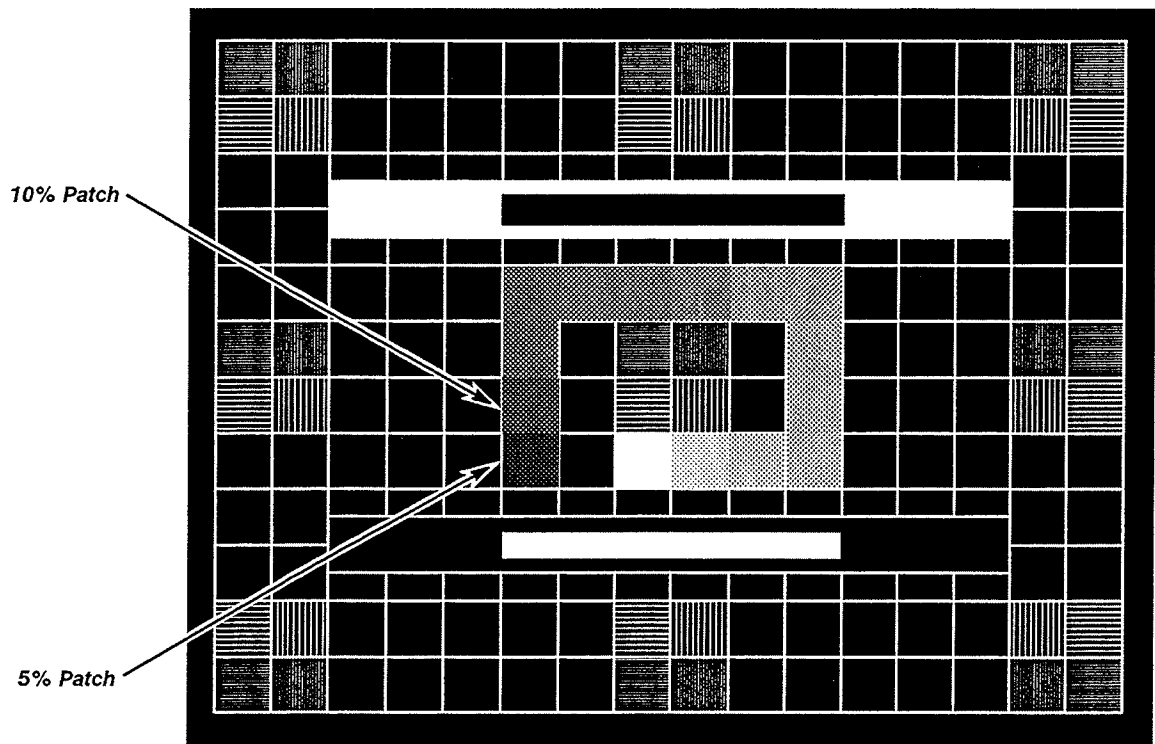

Figure 5-11: Five and Ten Percent Luminance Patches
- Adjust R569 (BRIGHTNESS) until the background raster lines in the 5% luminance patch (see Figure 5-11) just disappear, while the lines in the 10% luminance patch are just visible, when both are viewed through the magnifier.